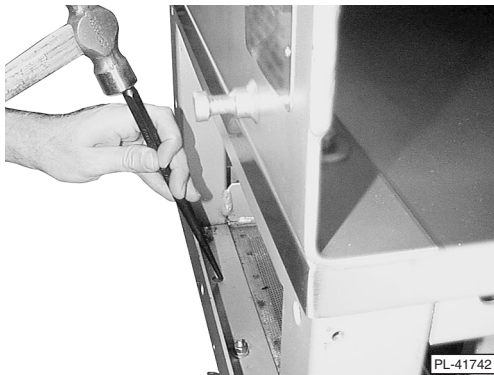

Fig. 2
2. On the front of the machine, locate the lower frame rail; approximately 4" (10.2 cm) from the left side, is a knockout hole for the foot switch control hose. Using a hammer and punch (Fig. 2), tap sharply to remove knockout piece in the sheet metal just beneath the frame rail.